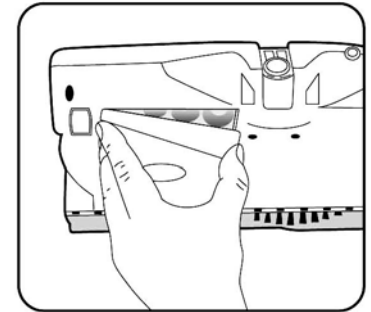

Fig. 17
- Push in locking tab and lift off battery assembly. (Fig. 17)